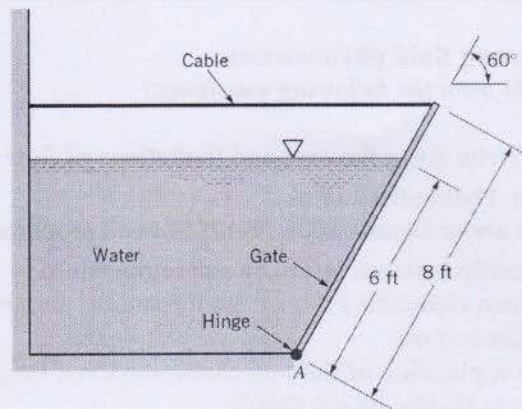

Figure 01
- (i) A homogenous 4-ft wide, 8-ft long rectangular gate, weighing 800 lbf is held in place by a horizontal flexible cable as shown in the **Figure 01**. Water acts against the gate which is hinged at point A. Friction in the cable is negligible. Determine the tension in the cable.